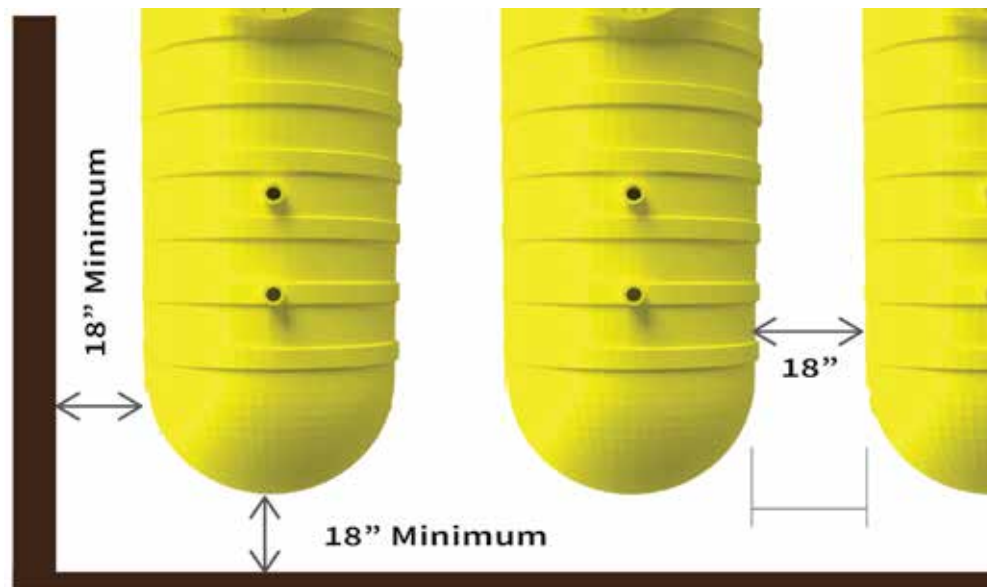

Figure 8: Installation of Two or More Tanks
- ✓ Space between Tanks must be equal to or greater than two times the width of the deadman or deadmen required between the Tanks. Reference Figure 8.